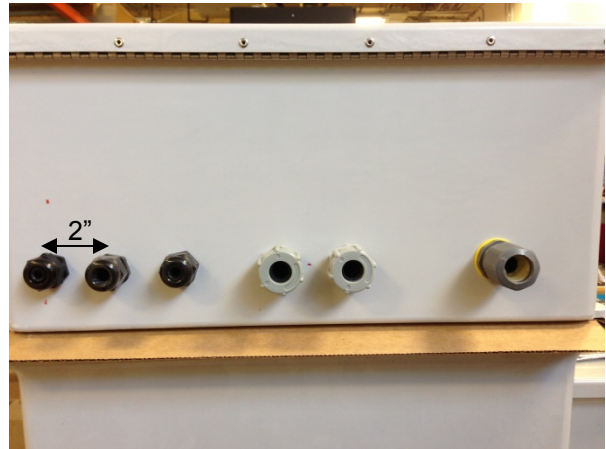

Fig. 5
3. If the controller is the Coordinator DTMAC or the designated GPS unit, drill another hole to the left of the east branch motor CAN cable entry (Fig. 5) according to the following requirements:
Drill a hole 7/8" (22 mm) in diameter for the GPS cord grip (Fig. 5) contained in the DTMAC Coordinator Upgrade Kit.
- b. If Cat 5 Ethernet cable is to be used, drill a hole 7/8" (22 mm) in diameter for the cable gland (included in the kit); if conduit fitting is to be used, drill a hole of appropriate size for the conduit that serves as the raceway for the Ethernet cable (Fig. 5).